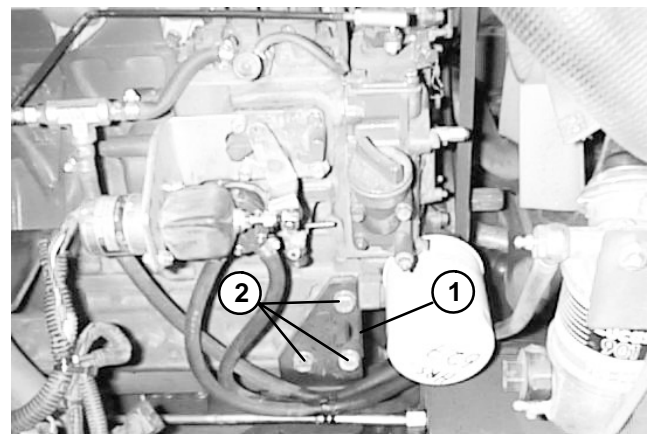

Figure 27
16. Remove three cap screws and lock washers securing the engine to the rear bracket and spacer (Fig. 27).
3. Secure engine to the spacers and rear brackets with three cap screws and lock washers. Torque cap screws from 61 to 75 ft–lb (8.4 to 10.4 kg–m) (Fig. 27).